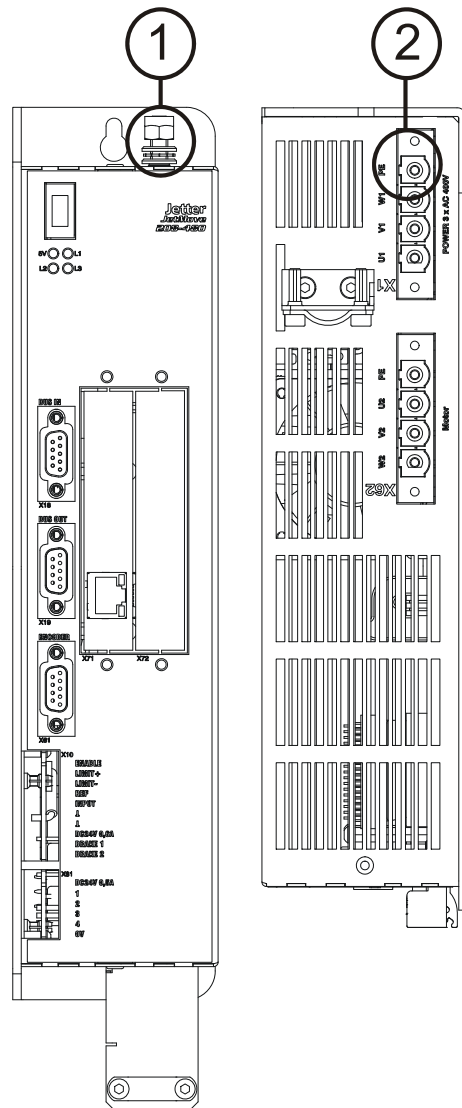

Fig. 1: Double earthing
- The protective earth bus must be connected to the PE (GND) bolt (1) located at the top side of the rack as well as to the PE (GND) terminal X1 (2) (please refer to fig. 1).
- Connect the earth to the cover. For this, please refer to fig. 1 on page 16.